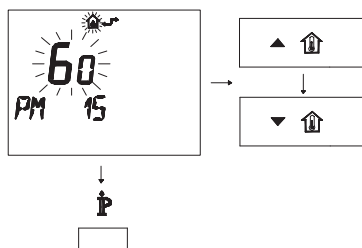

Fig. 7.14
- Modify the programmed SET by acting on buttons **▲** **⬆** or **▼** **⬆** until a **setting of 60** is displayed, wait for the number programmed to flash (Fig. 7.14).